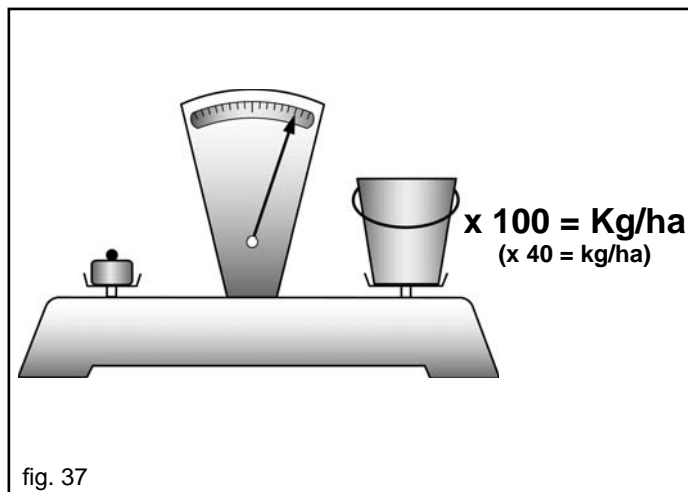

fig. 37
- 7) Weigh the seed collected in the trays and multiply the weight by 100 or 40, depending on the number of rotations made. The value obtained is the number of kilograms distributed per hectare (Fig. 37).